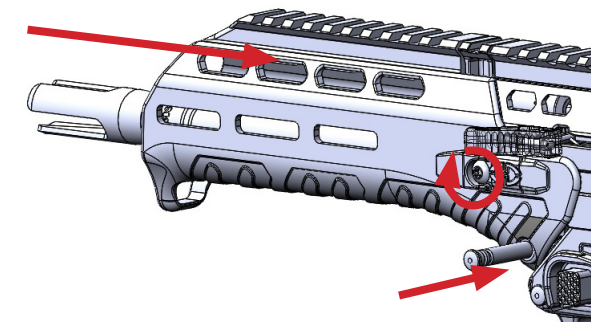

Fig. h-6
8. Install the handguard on the MDR by sliding it over the barrel assembly, Desert Tech logo end first, with the rail at the 12 o'clock position. (Fig. h-6)
9. Press the captured handguard retention pin through from the left side to the right side of the MDR receiver until it snaps into position, flush on each side. (Fig. h-6)
10. Tighten handguard retention screws with a torque wrench, using a T25 head, to 30 in/lb. (Fig. h-6)